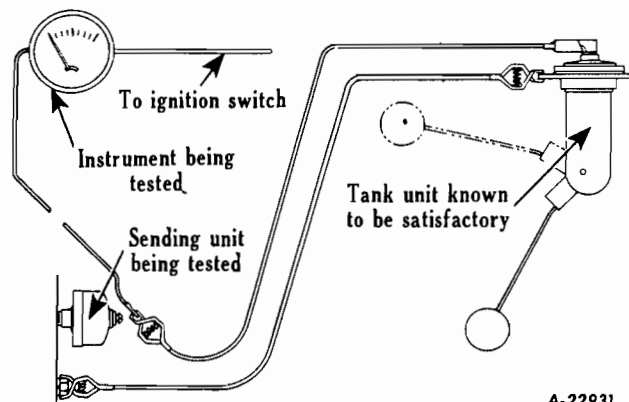

Fig. 9 - Method of checking gauges.
1. Disconnect sender unit being checked and hook in tank unit as shown in Fig. 9. Turn on ignition switch and operate float rod of tank unit by hand. With float of tank unit at bottom position, receiver unit being checked should register at bottom mark on dial. Next, move float rod up to top position, then receiver unit being checked should move to top mark on dial (allow one minute for receiver to come to rest).